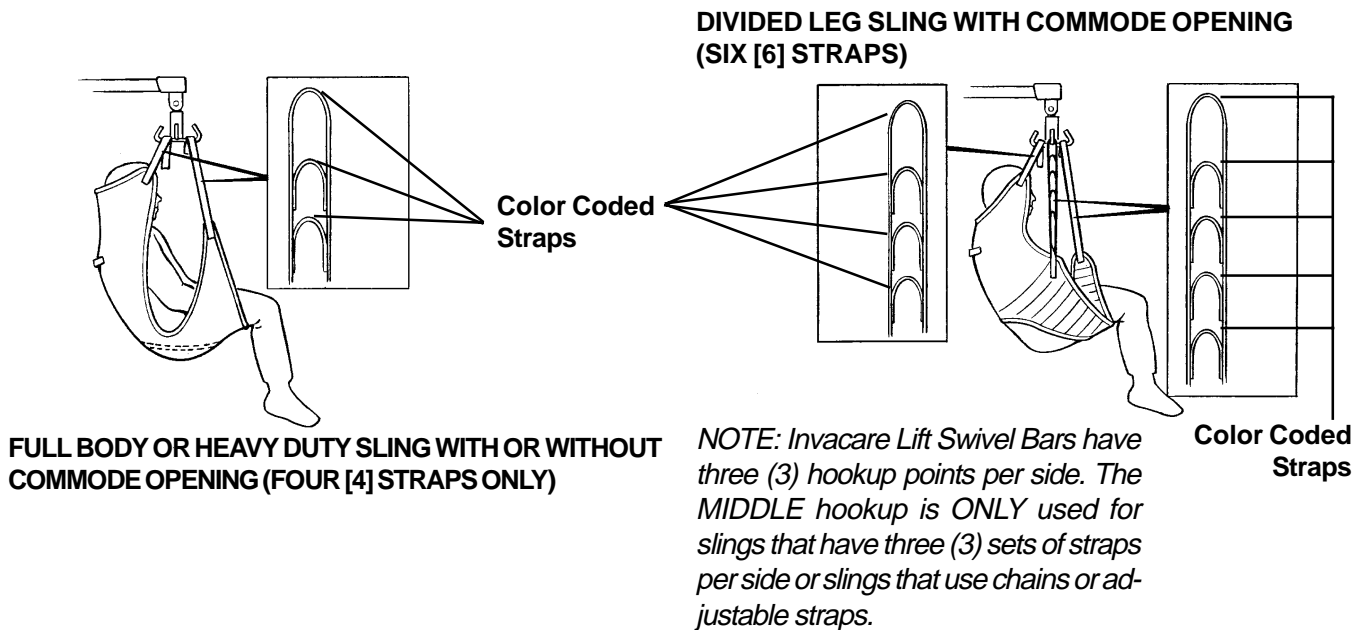

FIGURE 3 - ATTACHING SLINGS TO LIFT - SLINGS USING COLOR CODED STRAPS
Slings Using Color Coded Straps (FIGURE 3)
1. Place the straps of the sling over hooks of the swivel bar. Match the corresponding colors on each side of the sling for an even lift of the patient (FIGURE 3).